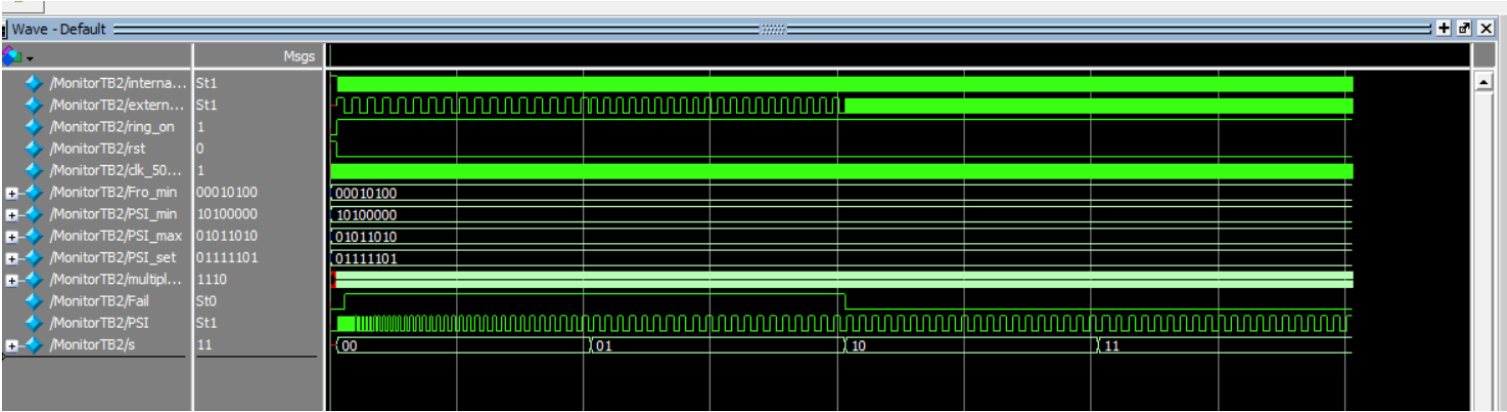

Fig. 6 Verify second task of clock monitoring unit
*B. Fro\_min = 30, Duration of external oscillator = 50, 100, 5000 and 6000 ns.(look at Fig6)*